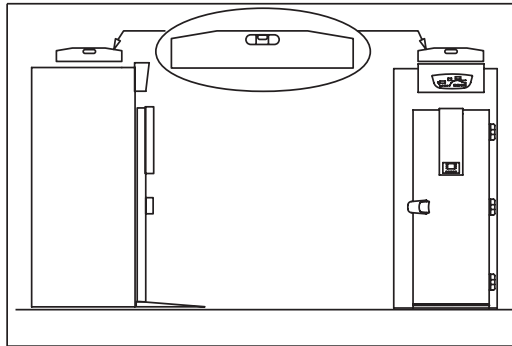

Fig.5
- position the retarder-proofer/dough-retarder Refrigerated Room using a level with possible adjustment of the feet of the metal base (Fig. 5)
- position the retarder-proofer/dough-retarder Refrigerated Room as described above (Fig. 5)